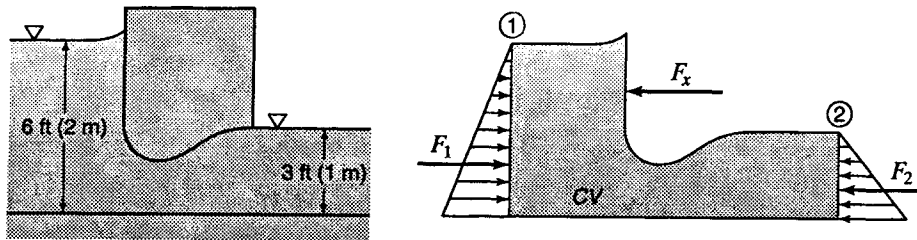

Figure S6.1
Sample Prob 6.1: For Fig. S6.1 refer to Solution 6.2. The passage at section (1) is 3 m wide. Assume ideal flow.